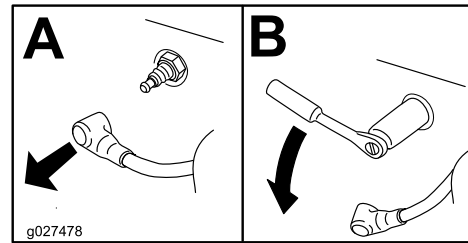

Figure 18
3. Locate and remove the spark plug (Figure 18).